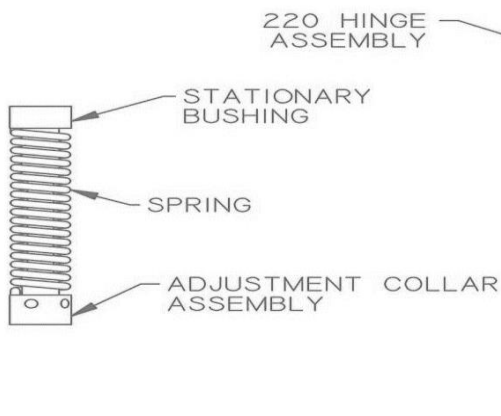

Figure 1
- 2) Assemble Spring Cartridge. Grease bushing end of pin prior to insertion into Stationary Bushing. Apply a small amount of grease to the hinge-pin hole on the end of the Adjustment Collar Assembly. (Fig. 1).